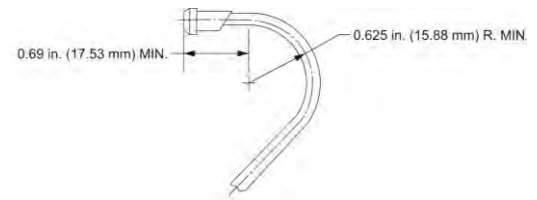

Figure 3
- B. Examine each fuel line for damage, leaks, dents, pits, nicks, kinks, stains (from fuel leaks), cracks, brittleness, nearby heat sources, chafing, looseness, crimped, kinked, or sharp bends. Refer to Figure 3 which shows the minimum acceptable dimensions for a bend in the fuel line. Replace (do not try to repair) a worn, damaged, chafed, brittle, crimped, sharply bent, kinked, or loose fuel line. (A loose fuel line could have been subjected to vibrational forces and be weakened. Cracks can develop at kinks in fuel lines.)
Damaged, pitted, nicked, dented, loose, crimped or kinked fuel line or fuel line with sharp bends greater than that shown in Figure 3	Do NOT re-use any fuel line that is damaged, dented, pitted, crimped, or kinked. Dents can cause cracks to form. Replace the fuel line with a new fuel line.*